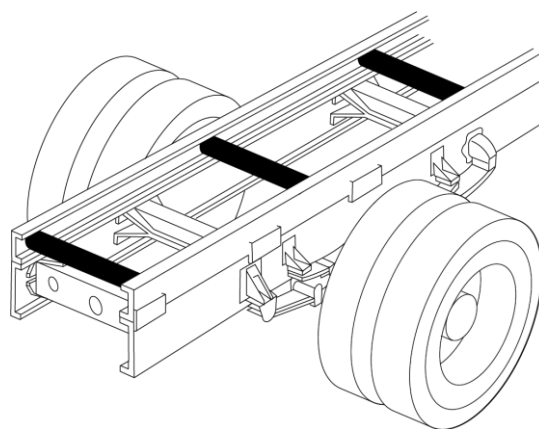

Figure 6: Sub-frame with pipe cross-members
- Ensure cross-members included in the sub-frame meet the requirements of VSB6 Section H — Chassis. Avoid using cross-members made from large sections of rectangular hollow section (RHS) or pipe unless recommended by the VMLS manufacturer (see Figure 6).